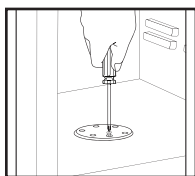

Figure 1
3. Remove the (6) screws securing the mounting hole cover plate (Figure 1)